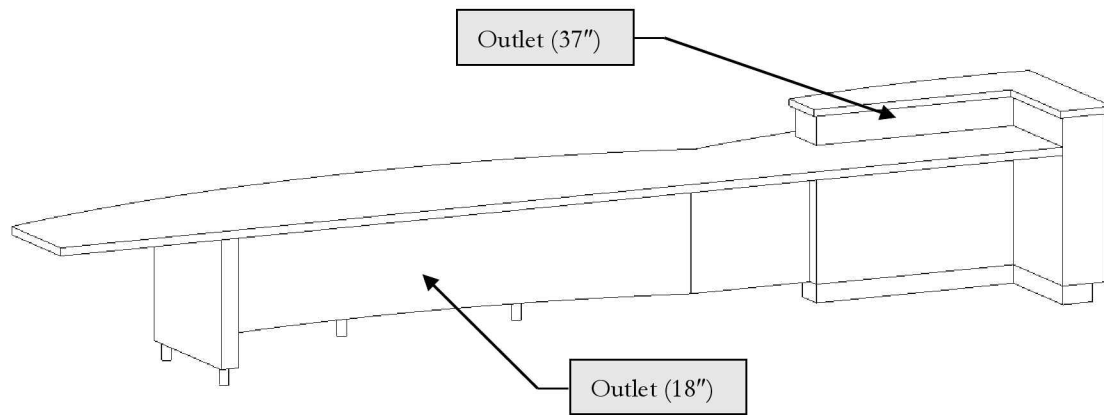

FIGURE 14-3.6 Outlets to be placed at reception desk
17. Place the outlets at the *Reception Desk*. (See Figures 14-3.6 to 14-3.8.)